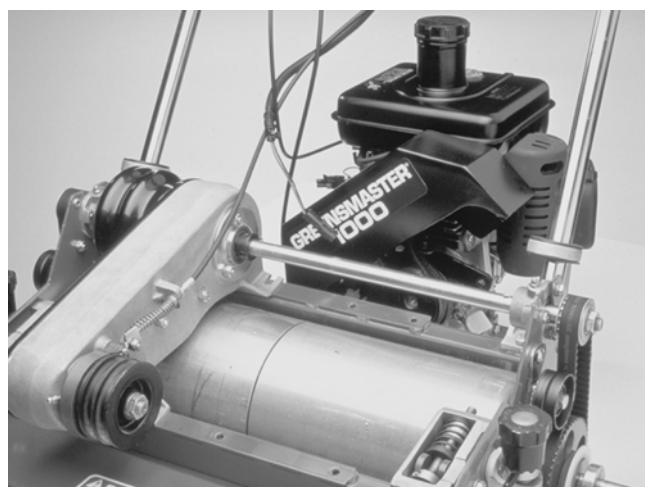

Figure 52
5. Remove cable clips from the cables, wires, and handle assembly. Removal of the wires and cables is not necessary. Lift the engine with the engine base from the frame and set them behind the mower (Fig. 52).
10. Lift engine with the engine base from behind the mower onto the frame. Reinstall cable clips to the cables, wires, and handle assembly (Fig. 52).